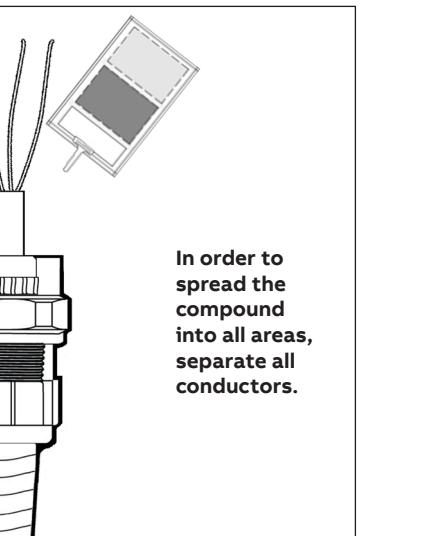

Figure 3a
**For fittings up to and including STX250-476, fill to the top (Figure 3a)**
**For fittings STX300-478 and up, fill approximately HALF of the sealing chamber. Wait 2 hours and fill the rest of the sealing chamber to the top (Figure 3a)**